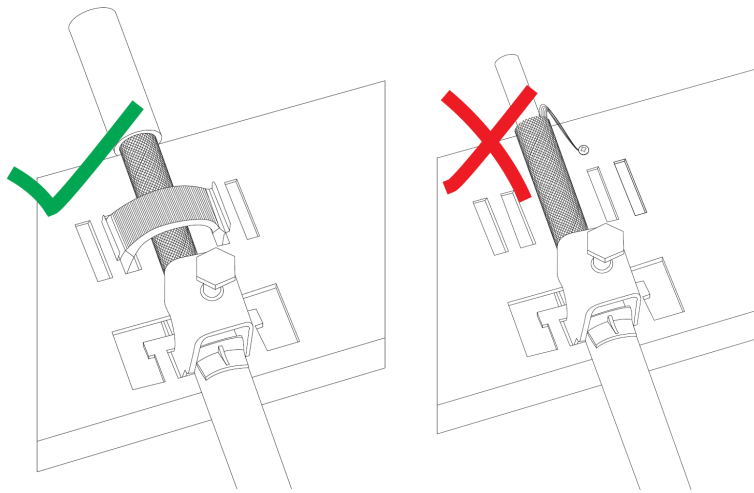

Figure 14: Correct (left side) and wrong (right side) connection of VFD cable; correct 360° connection of shielded cable requires cable clamps or metal fittings
- Figure 14: Correct (left side) and wrong (right side) connection of VFD cable; correct 360° connection of shielded cable requires cable clamps or metal fittings